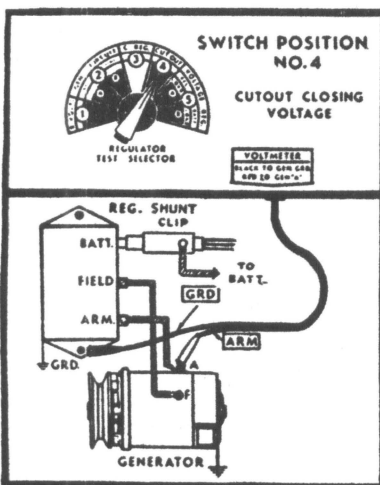

Fig. 7
#### CLOSING VOLTAGE—Fig. 7
*All other connections same as in Fig. 7.*